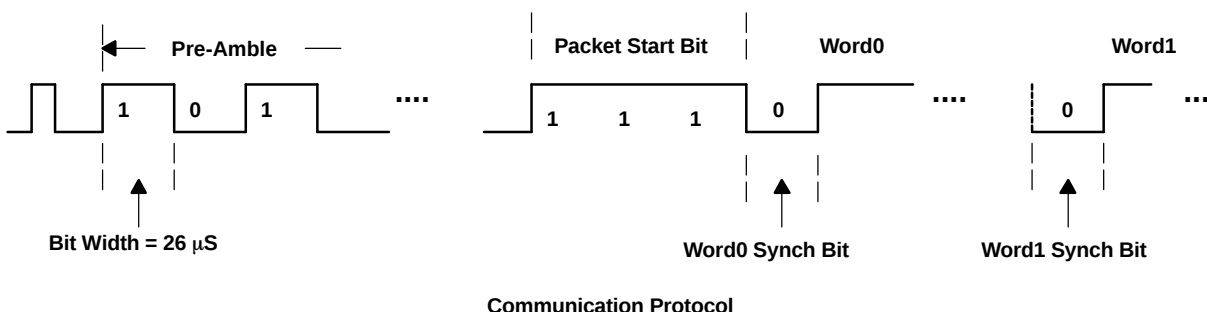

Figure 10. Communication Protocol
The wireless data communication protocol is digital FSK at 38,400 bits per second with NRZ coding. The communication protocol used for the demonstration board includes preamble, packet start bit, and word-sync bit as illustrated in Figure 10.
- User sequence is sent to **Board B** (TRF6903 demo board) using the transmission data packet described in Table 4, embedded in the communication protocol described in Figure 10. The transmission packet includes a unique header, four bytes with the button IDs and a checksum.